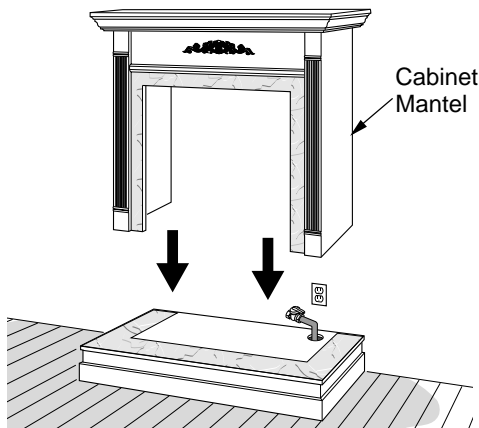

Figure 31 - Installing Cabinet Mantel
6. Center cabinet mantel on hearth base (see Figure 31, page 19). Make sure mantel is flush against wall.